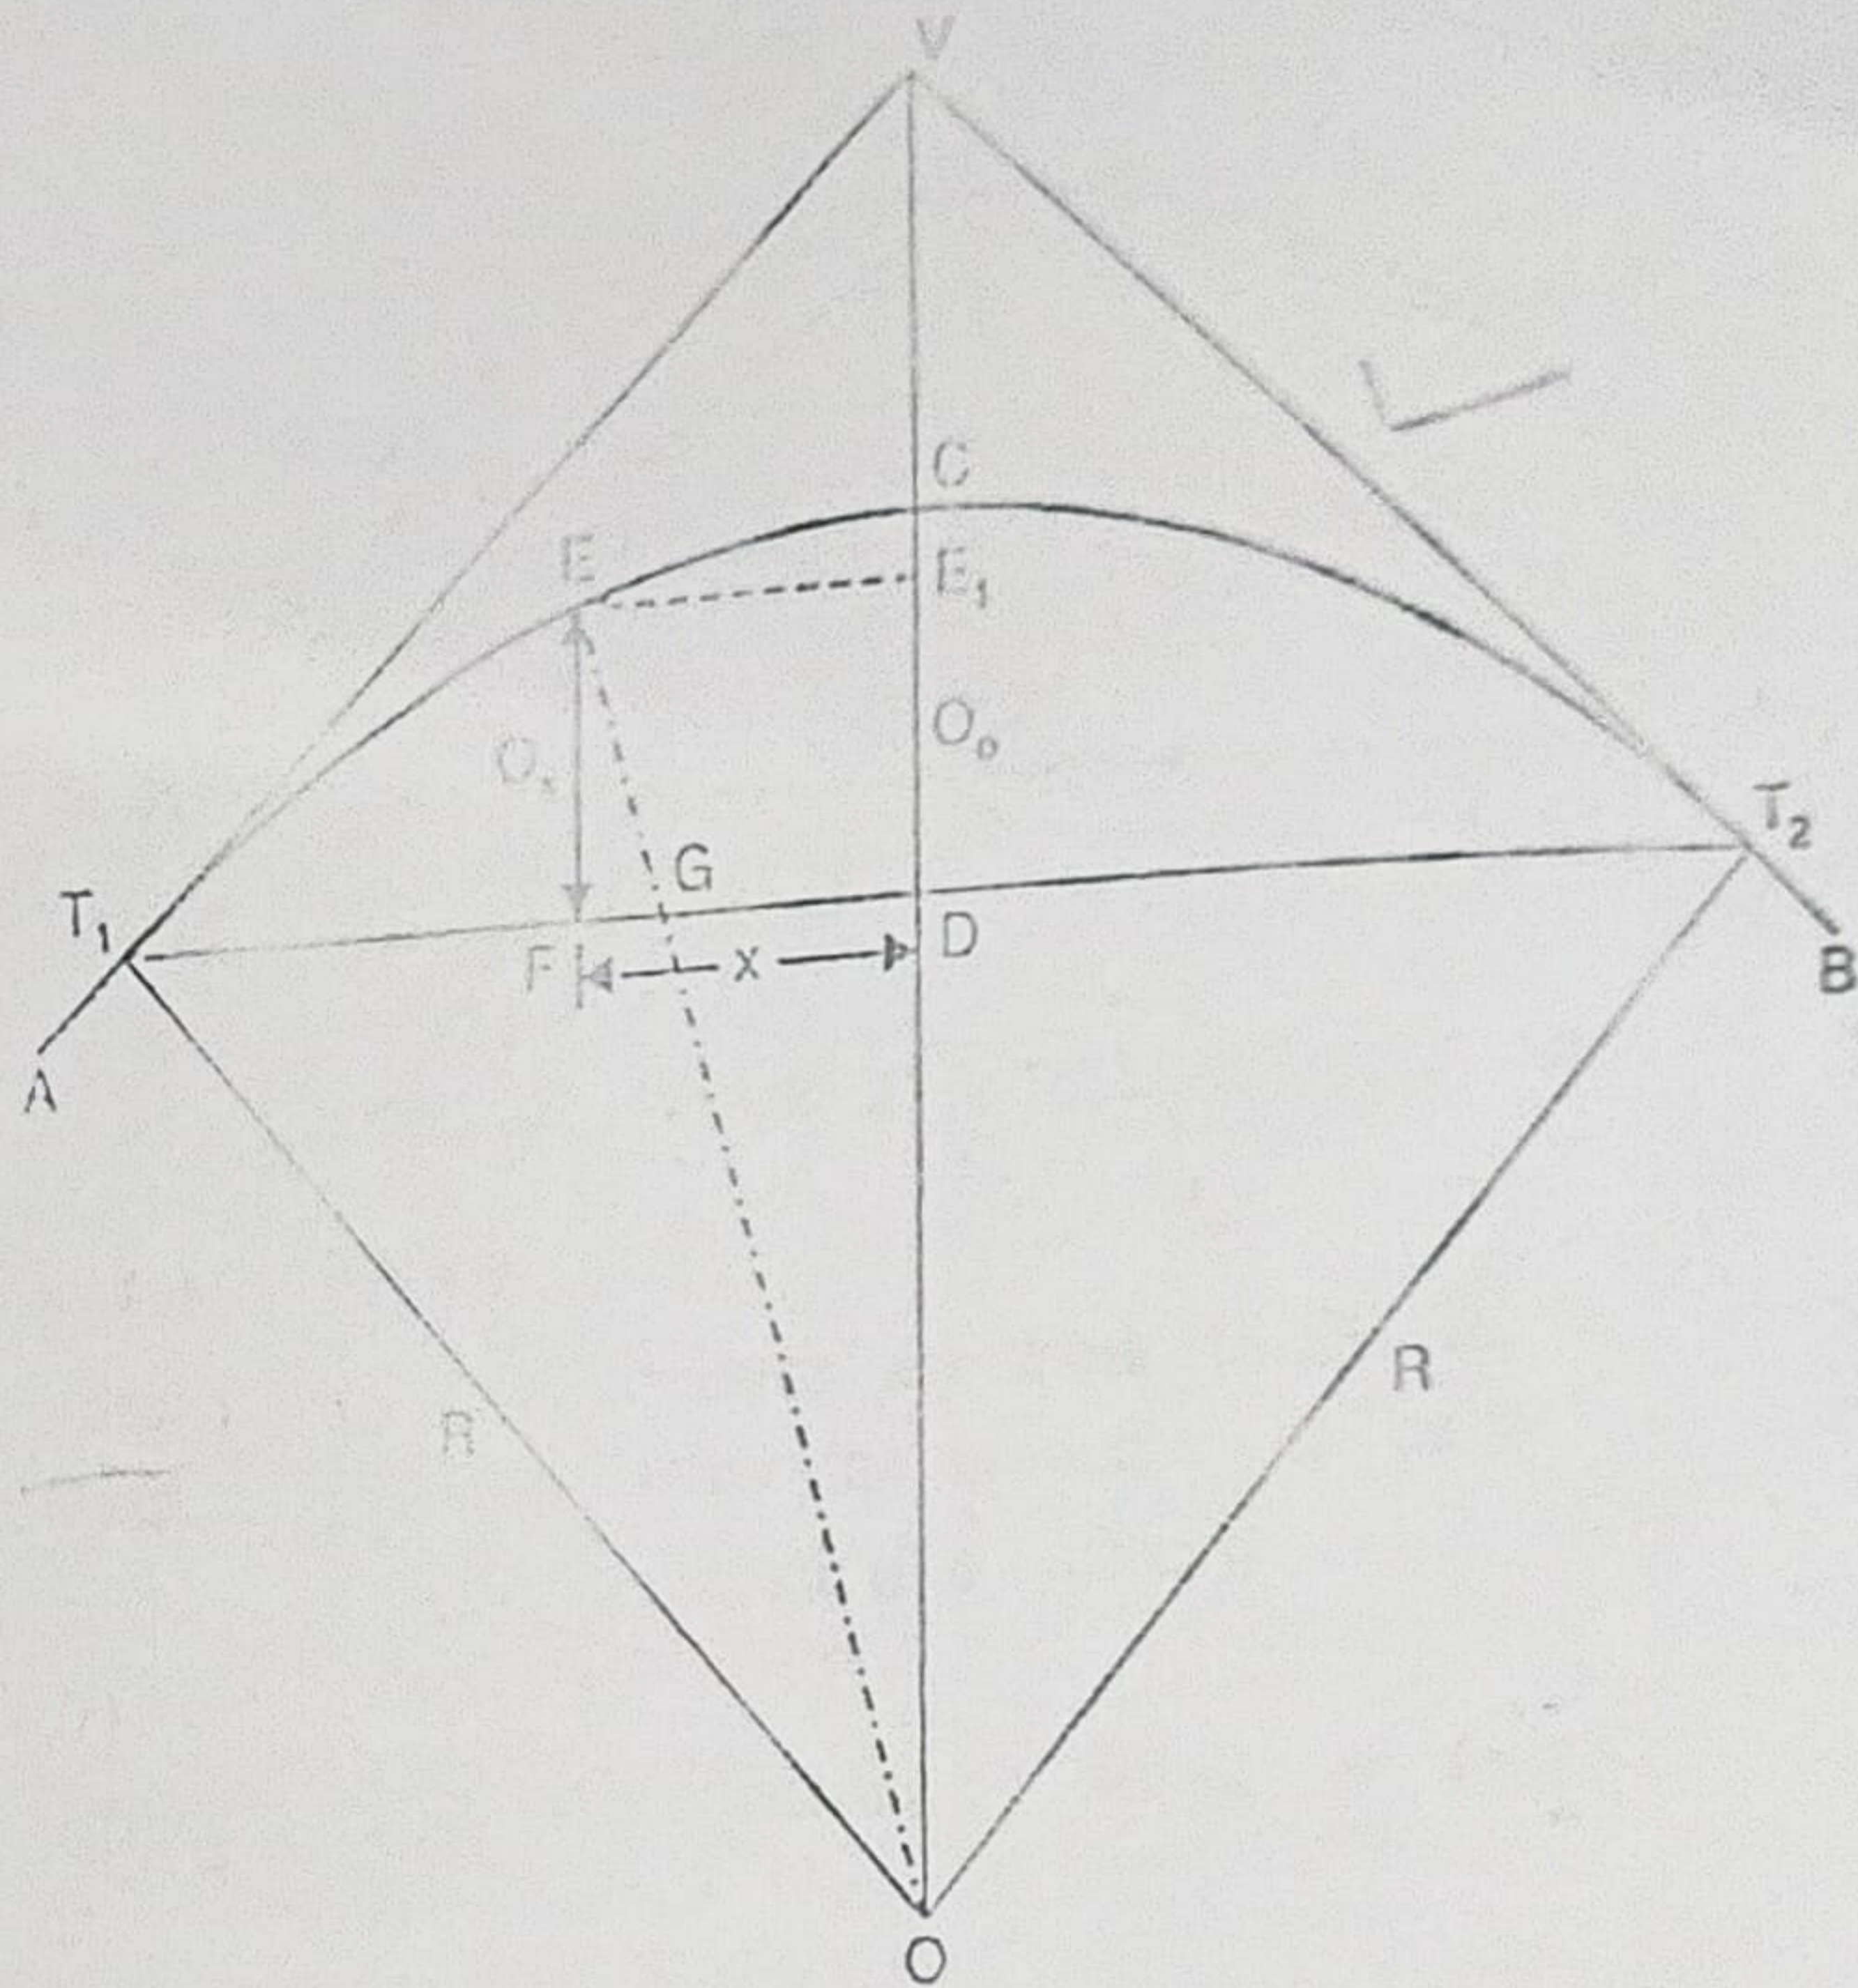

FIG. 1.5. BY ORDINATES FROM THE LONG CHORD.
1.6. BY ORDINATES FROM THE LONG CHORD : (Fig. 1.5)